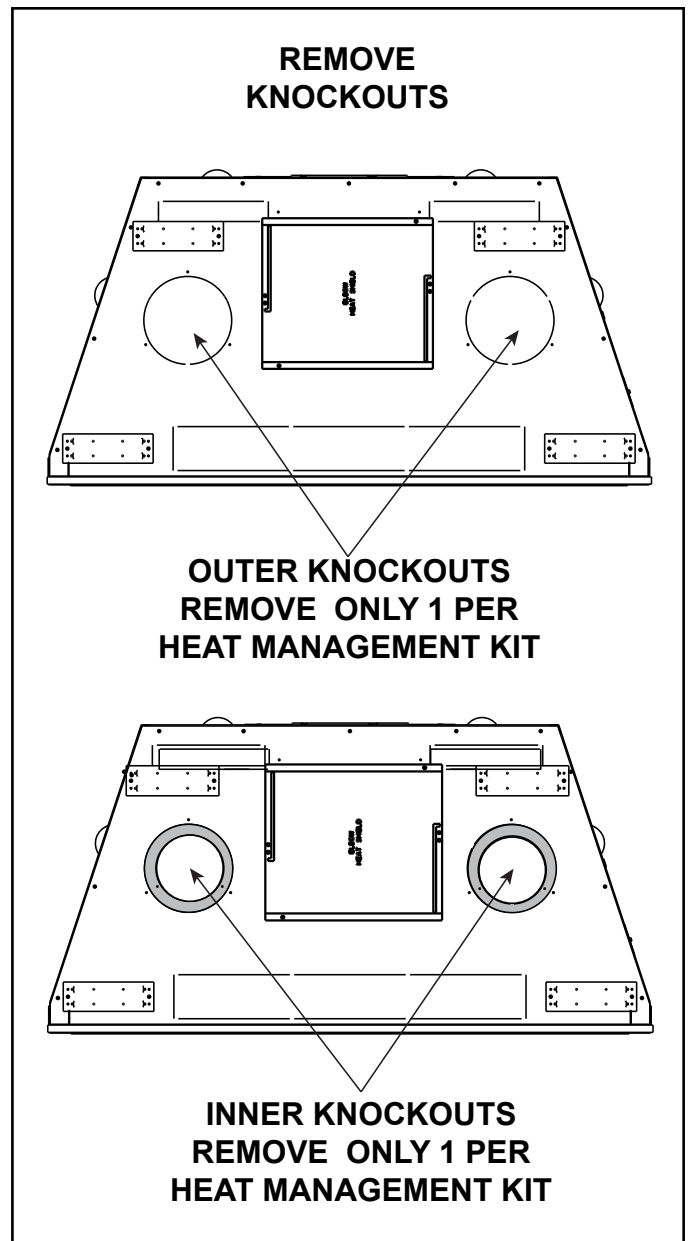

Figure 1 Top Knockout Locations
1. Locate the HEAT-ZONE-GAS knockouts on the top of the appliance as shown in Figure 1. Remove only one of the outer knockouts from the appliance with a tin snips or screwdriver. Remove inner knockout from the same side. See Figure 1.